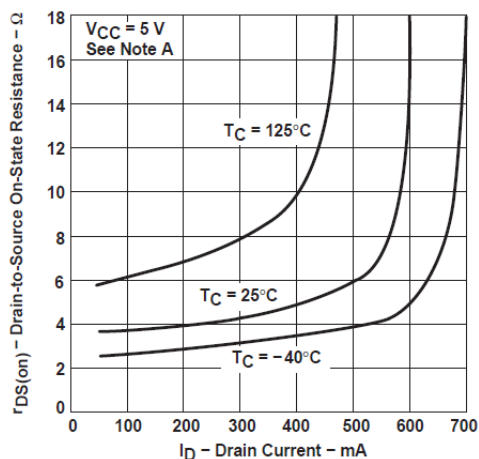

Figure 5-3. Drain-to-Source On-State Resistance vs Drain Current
| | | I _D = 100mA V _{CC} = 4.5V | T _C = 125°C, See Figure 5-3 and Figure 5-4 ^{(1) (2)} | | 6.8 | 9.5 | | |